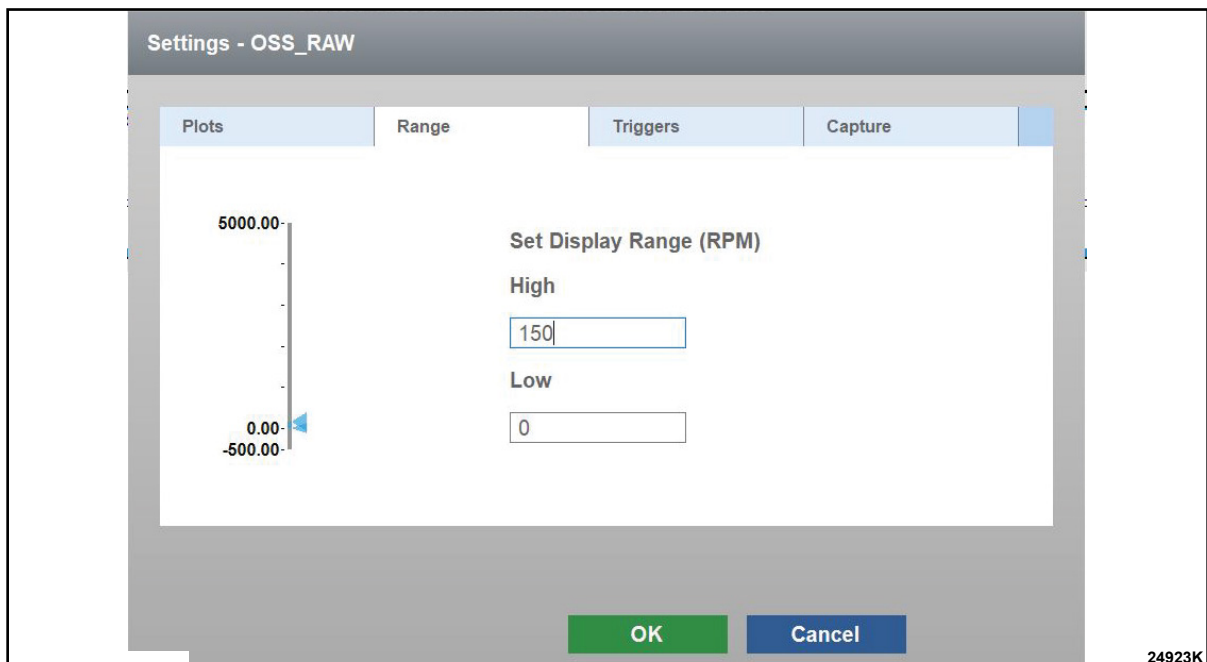

FIGURE 4
11. Rescale the display range to a high of 150 RPM and a low of 0 RPM. See Figure 4.